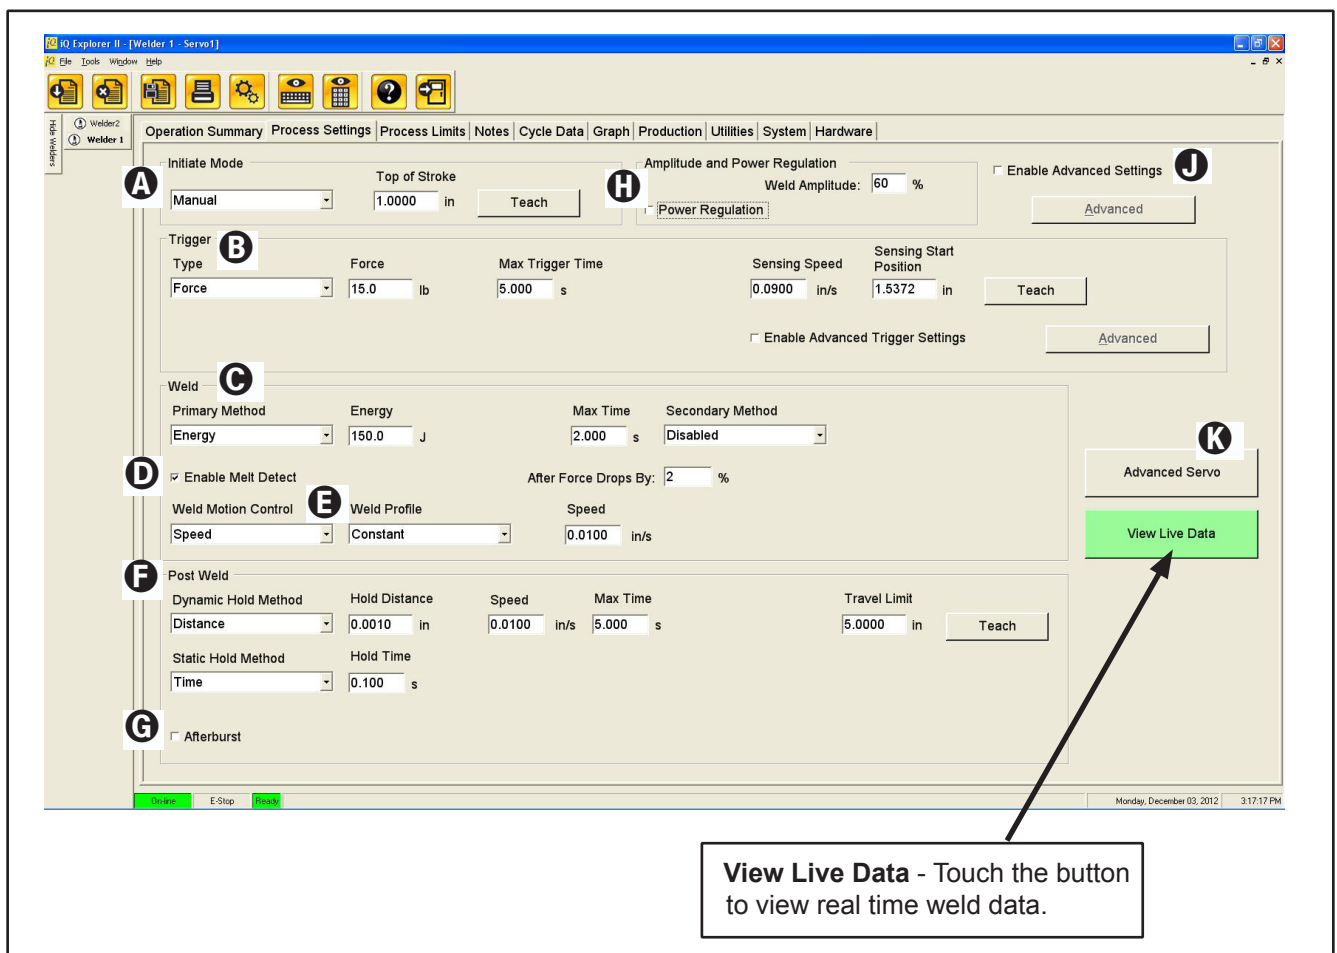

Figure 4-32 Setup - Process Settings
4. To configure a setup to execute a weld, click on the **Process Settings** tab, and modify the settings listed below and shown in Figure 4-32.